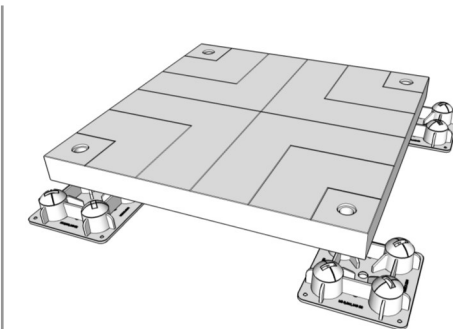
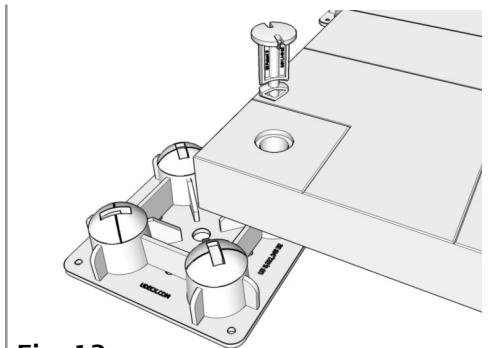

Fig. 12
Fig. 13
Place a Pad (B) on top of the 4 installed Piers (A) (Fig. 12) and insert 4 Cam Locks (C) into the 4 cam ways in the Pad (B). (Fig. 13)